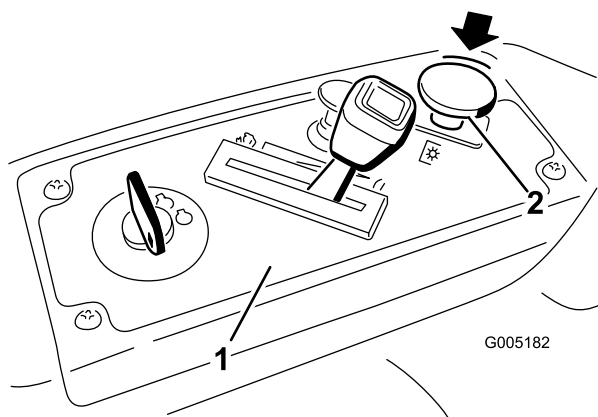

Figure 10
2. Disengage the blades by moving the blade control switch to Off (Figure 10).
1. Disengage the blades by moving the blade control switch to Off (Figure 10).